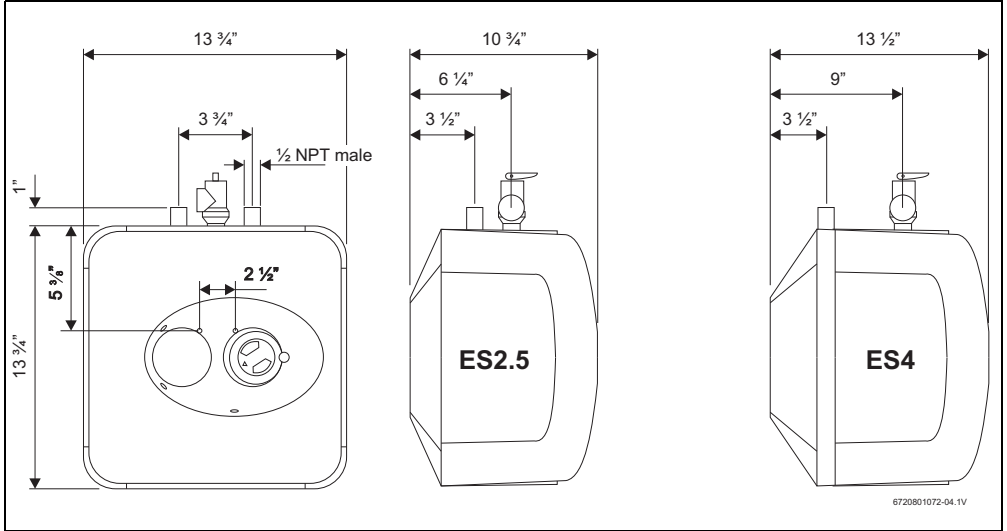
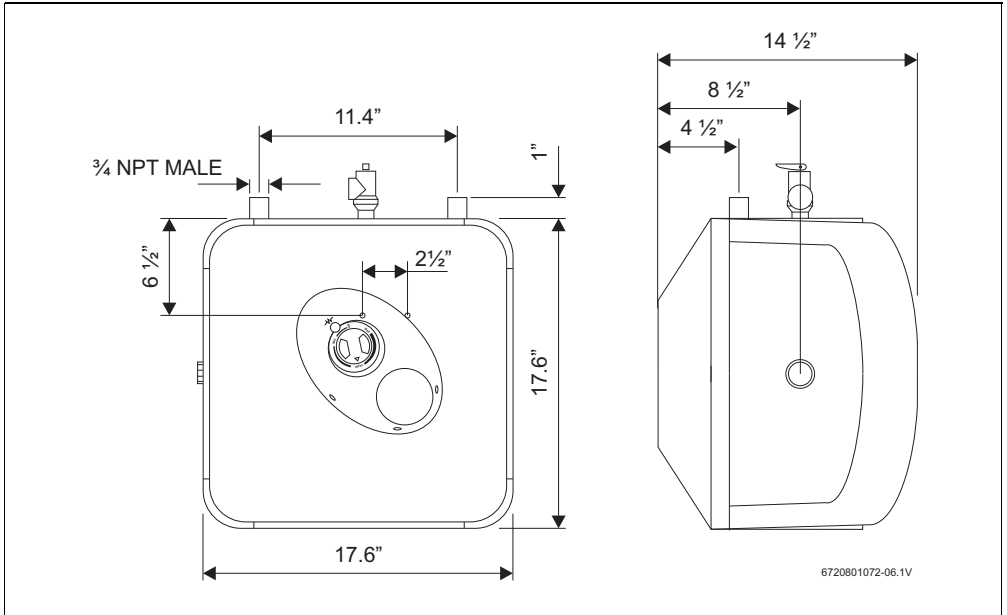

Fig. 5
Fig. 6
- ▶ The supplied Temperature and Pressure Relief Valve will need to be installed on top. See location of T&P relief valve in → Fig. 5 and → Fig. 6.